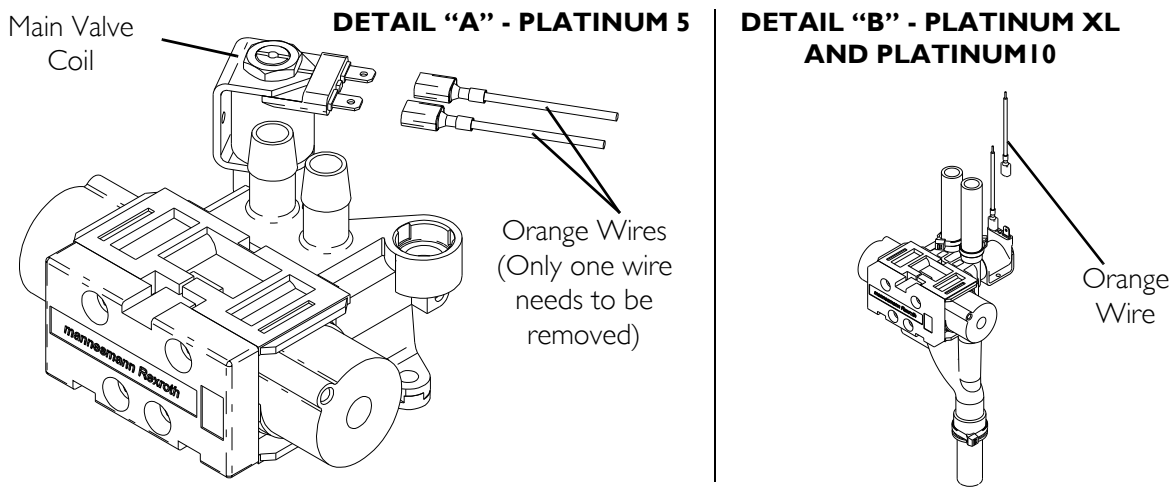

FIGURE 24.2 High Pressure Test
NOTE: For this procedure, refer to FIGURE 24.2.
2. The main valve coil alarm should activate within 40 seconds. Refer to SensO₂ Alarm Threshold on page 94 for shutdown mode (FIGURE 24.2).